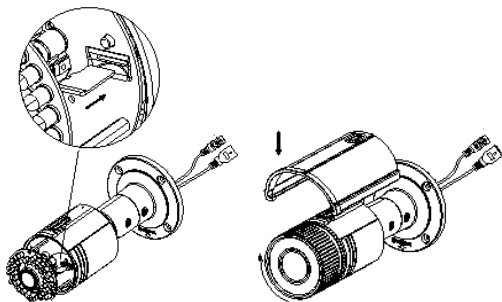

Figure 2-2 Install the SD Card/Replace Cover and Sunshield
4. Insert the SD card to the SD card slot. See Figure 2-2 (left).
5. Rotate the front cover clockwise onto the camera and replace the sun shield as shown in Figure 2-2(right).